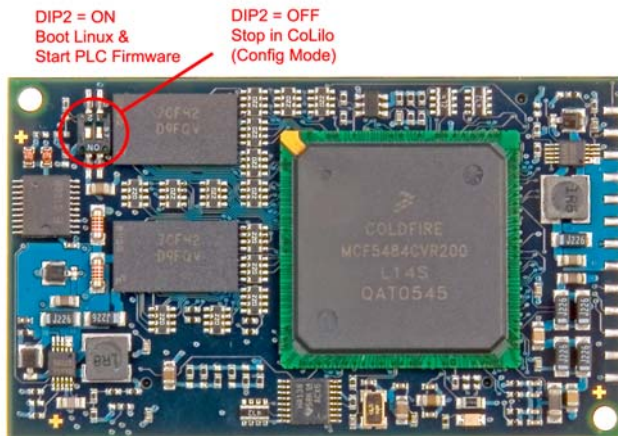

Figure 9: Positioning and meaning of DIP-Switch 2 on the PLCcore-5484
- (1) **DIP2 = "Off" and /BOOT = "High"**      DIP2: see Figure 9, /BOOT: see Table 5,
Figure 9 shows the positioning and meaning of DIP-Switch 2 on the PLCcore-5484. This DIP-Switch might be hard to access if the module is built in. Thus, the Portpin of the processor that is connected to the switch is available as connection "/BOOT" on the pin connector of the PLCcore-5484 (see Table 5).